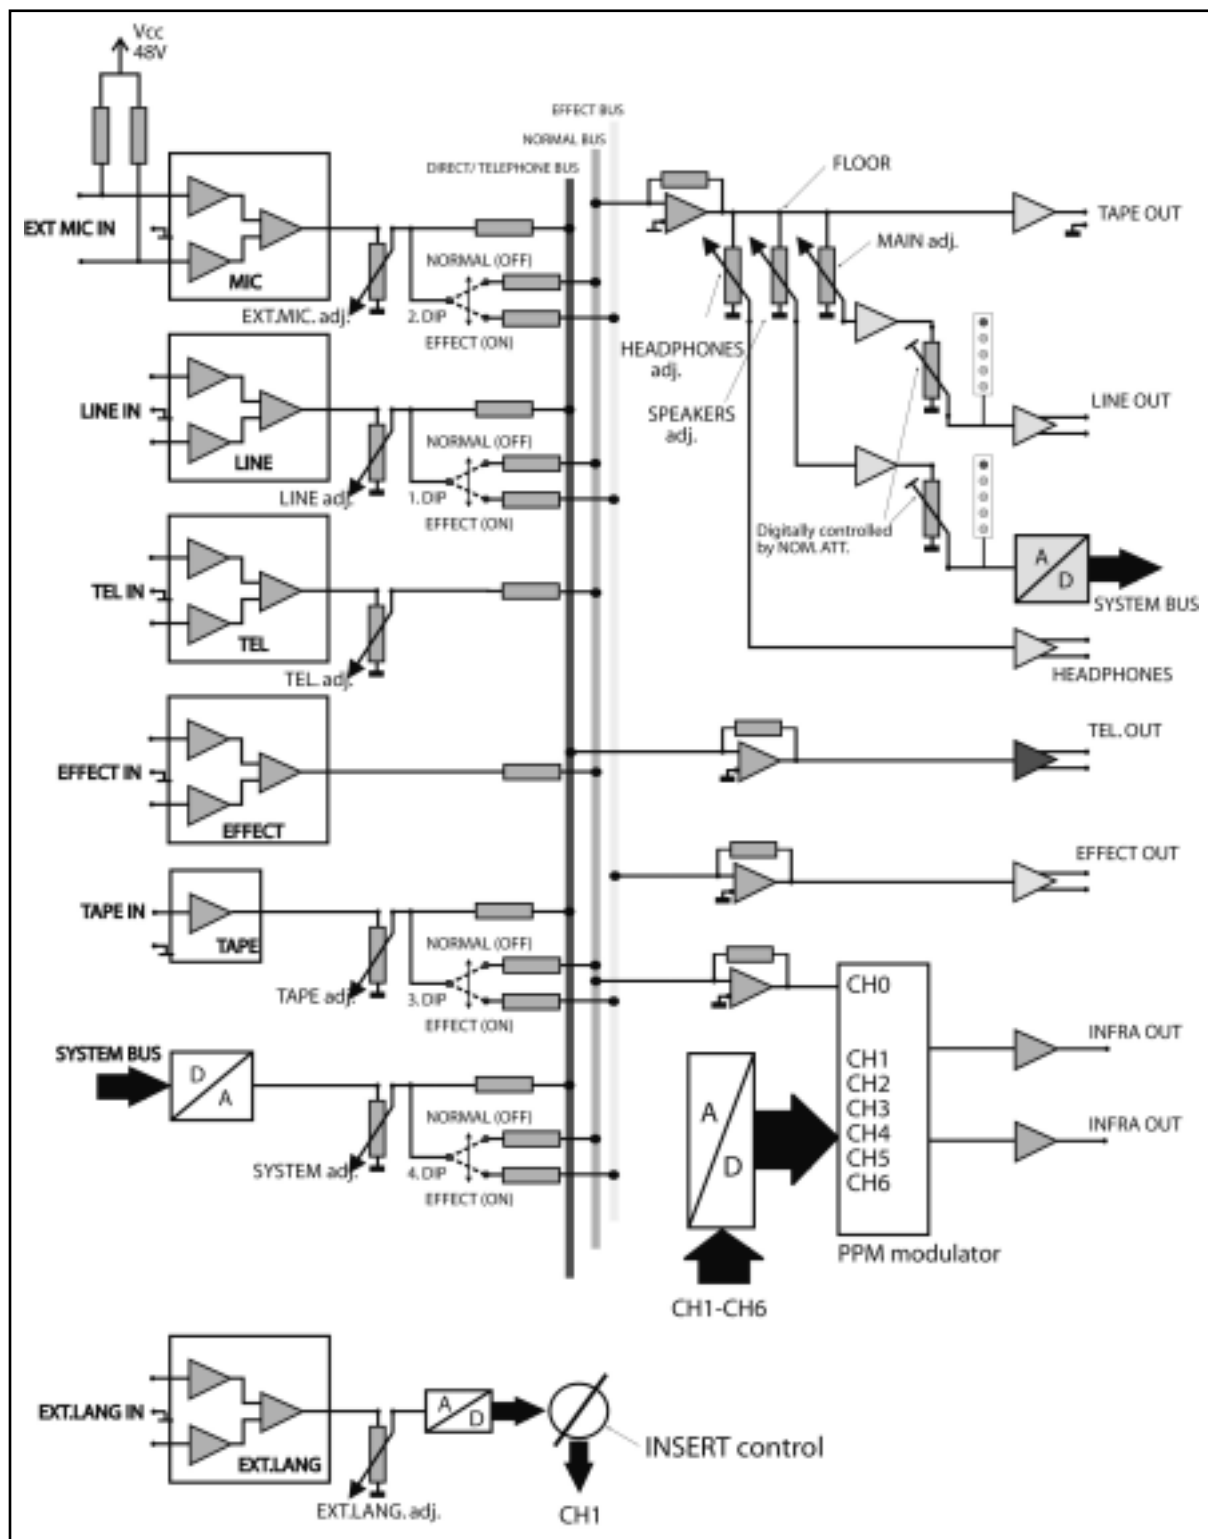

Fig. 3: Block diagram of the CS5 BU analog section.
1. Before powering up, set all front panel level controls to minimum (smallest dot) and set the rear panel dip switches as required. Refer to fig. 3 on page 15 and Table 1 below.